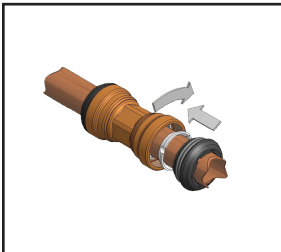

FIGURE 4
3. Slide the removal ring and end cap toward the fitting body and thread the cap onto the fitting body by turning clockwise until the threads of the end cap engage the threads of the fitting body (Fig. 4).